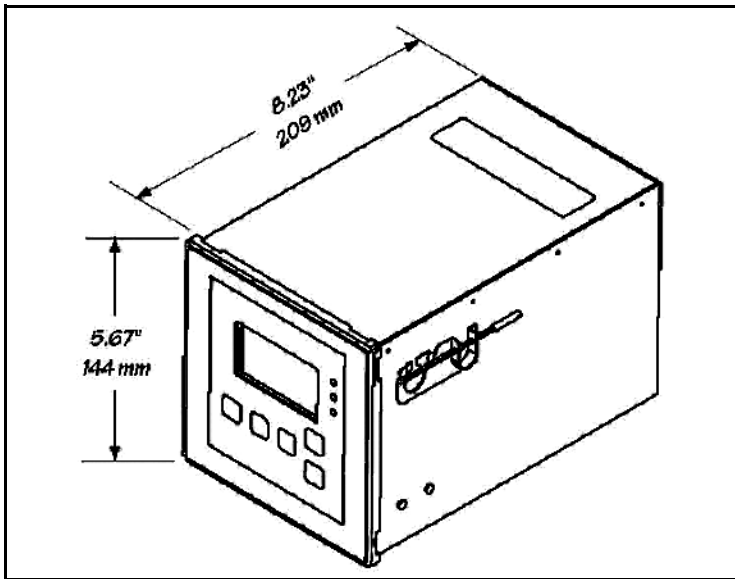

Figure 8: MR2350 Panel Mount Version
3. From the rear side of the panel, slide the two mounting clamps into place on each side of the unit (see Figure 8 on page 8).